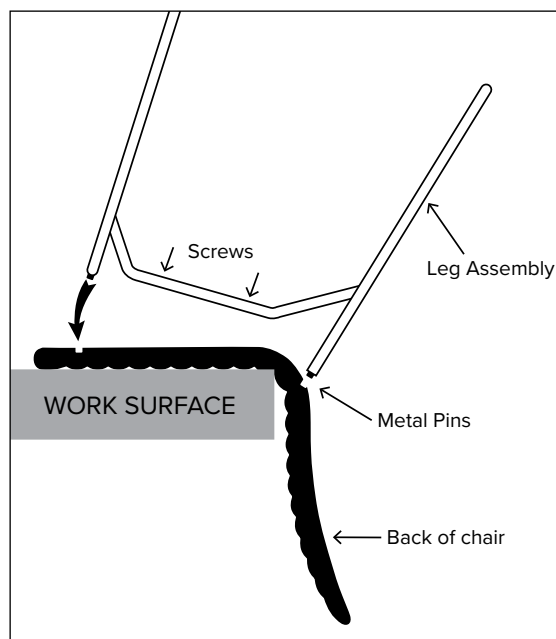

Figure 1
2. Tilt the leg assembly so the front legs are elevated away from the seat frame by about six inches (Figure 1). Apply a moderate amount of force to insert the metal pins on the back legs into the holes on the back side of the seat. Note: You may need to gently push the legs closer together to align the pins with the holes; grip from the end that will rest closer to the floor.